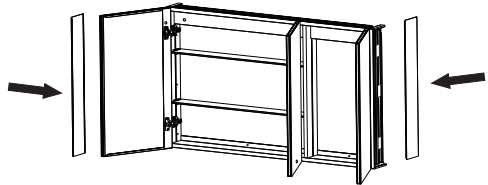

Fig.4
- 2.2 Insert the surrounding aluminum plate into the cabinet bracket(Fig.4)